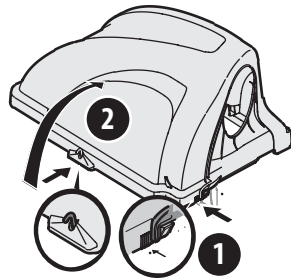

Figure 11
- Open hood by pushing in on the rear, right-side tab with your right hand, as seen in (1) of Figure 11, and lifting the cover with your left hand in the center rear of the bagger cover (2).